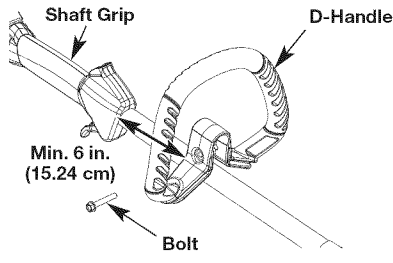

Fig. 1
1. Loosen the bolt on the D-handle just enough to move it (Fig. 1).
3. Tighten the bolt until the D-handle is secure (Fig. 1).